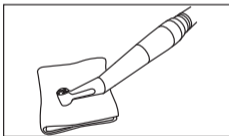

Fig. 8
- 3 Wipe the exterior of the handpiece clean using a cloth moistened with disinfectant or ethanol with a concentration of 60-90%. (Fig. 8)